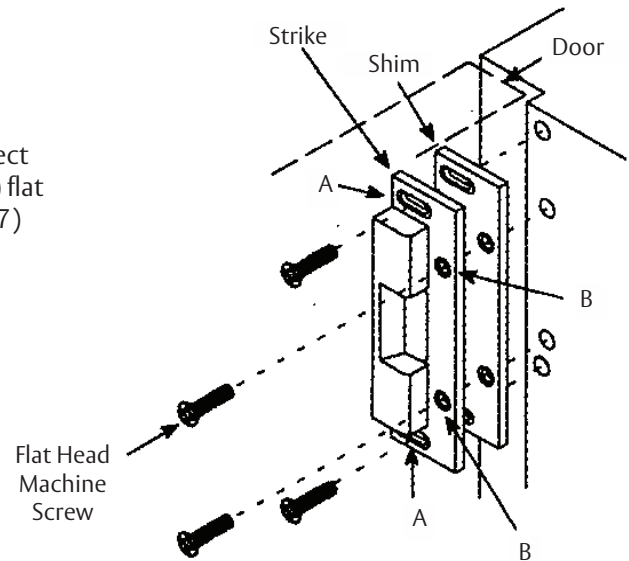

Figure 7
Install strike using flat head machine screws in holes marked **A**. (Figure 7) Adjust strike. Strike is properly adjusted when latch is able to fully project when door is closed. Drill, tap, and install two (2) flat head machine screws in holes marked **B**. (Figure 7)